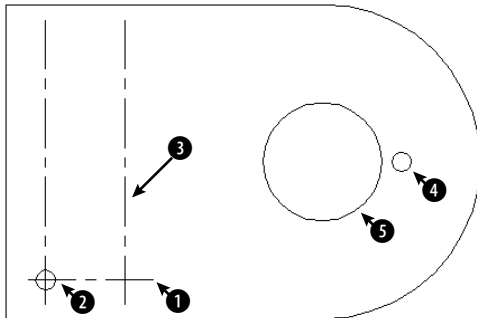

**Figure 10-6:** A partially completed mounting bracket.
2. Save the file as `ab10-02.dwg` in your AutoCAD Bible folder. It looks like Figure 10-6. OSNAP should be on. Set center and intersection running object snaps.
4. Click the Select Objects button of the Array dialog box. In the drawing, pick the horizontal centerline **1** in Figure 10-6 and then press Enter. You return to the dialog box.
10. Click the Select Objects button in the Array dialog box. In the drawing, pick circle **2** in Figure 10-6 and then press Enter.
12. Click the Pick Both Offsets button. In the drawing, pick the center of circle **2** and the intersection of centerlines near **3** in Figure 10-6. (You can also pick the intersection of centerlines at the center of circle **2**. If necessary, press Tab until you see the object snap that you want.)
14. To create a six-hole bolt circle, pick hole **4** in Figure 10-6.
17.  Next to the Center Point text boxes, click the Pick Center Point button. In the drawing, pick the center of the large circle at **5** in Figure 10-6.